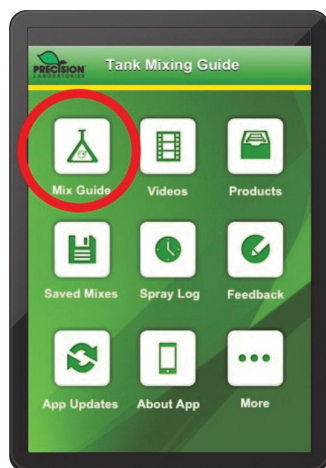
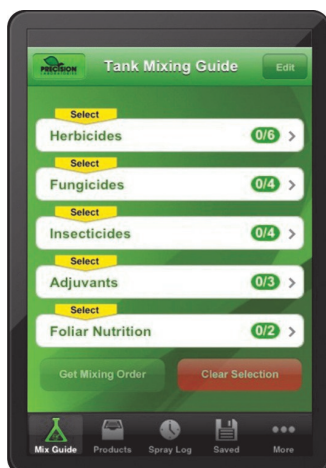

Figure 1. Precision Laboratories' Tank Mixing App Start-Up Screen
Figure 2. Select from five categories and choose up to 19 tank mix partners
You should plan for half-a-day per sprayer for your start-up routine. It may not take that long, but pressure gauges snap off, fittings crack, and bearings seize – have a plan for getting replacement parts! (see Figure 1)
Figure 1. It takes time and elbow-grease to get seized parts, such as this fan gear box, moving again. Plan for half-a-day per sprayer when performing your seasonal start-up, and be sure you have a source for replacement parts.
At the start-up screen, select “Mix Guide” (see Figure 1). Then, select the category of the product you wish to tank mix (see Figure 2) and then select the product(s) from the alphabetized list. The app analyzes your selections and suggests the best order to add them to the tank. Note that these are US products, which means they may have different names in Canada, if they are registered at all. The app has other appealing features you can explore, such as saving your mixes for future reference, and accessing instructional videos.
Comparison of annual firmness levels at harvest in 'McIntosh' apples shows a slow decrease since the 1990s for Ontario and Quebec regions (Fig. 1). However, studies still have to be conducted on multiple comparisons between apple productions before and after the 1990s to detect the main factor explaining this decrease. Simple modifications in orchard management practices, apple tree loads per orchard, crop load, handling techniques, or fruit quality indices used to detect maturity levels might imply modifications of firmness levels at harvest (Harker et al., 1997). It has been suggested that the deterioration in textural properties of apples may be linked with development of more intensive growing systems within the orchard and greater standards for apple caliber, which lowers the overall firmness values at harvest. In England, this downward trend in apple firmness has been shown on 'Cox's Orange Pippin' apples, where between 1966 and 1984, firmness after storage has declined by more than 10 Newtons (N)* despite improvement in controlled-atmosphere regimes over the years (Horscroft, 1989). The interpretation of such data remains problematic as a result of variations in methods for measuring firmness and fruit size, storage technologies, and length of storage period as the fruit industry becomes more sophisticated.
Fig. 1. 'McIntosh' apple firmness levels at harvest (N) as a function of years of harvest, for all sites and years of harvest included in this study, with a tendency curve plotted to the data. Note that ~62-72 N = ~14-16 lbs